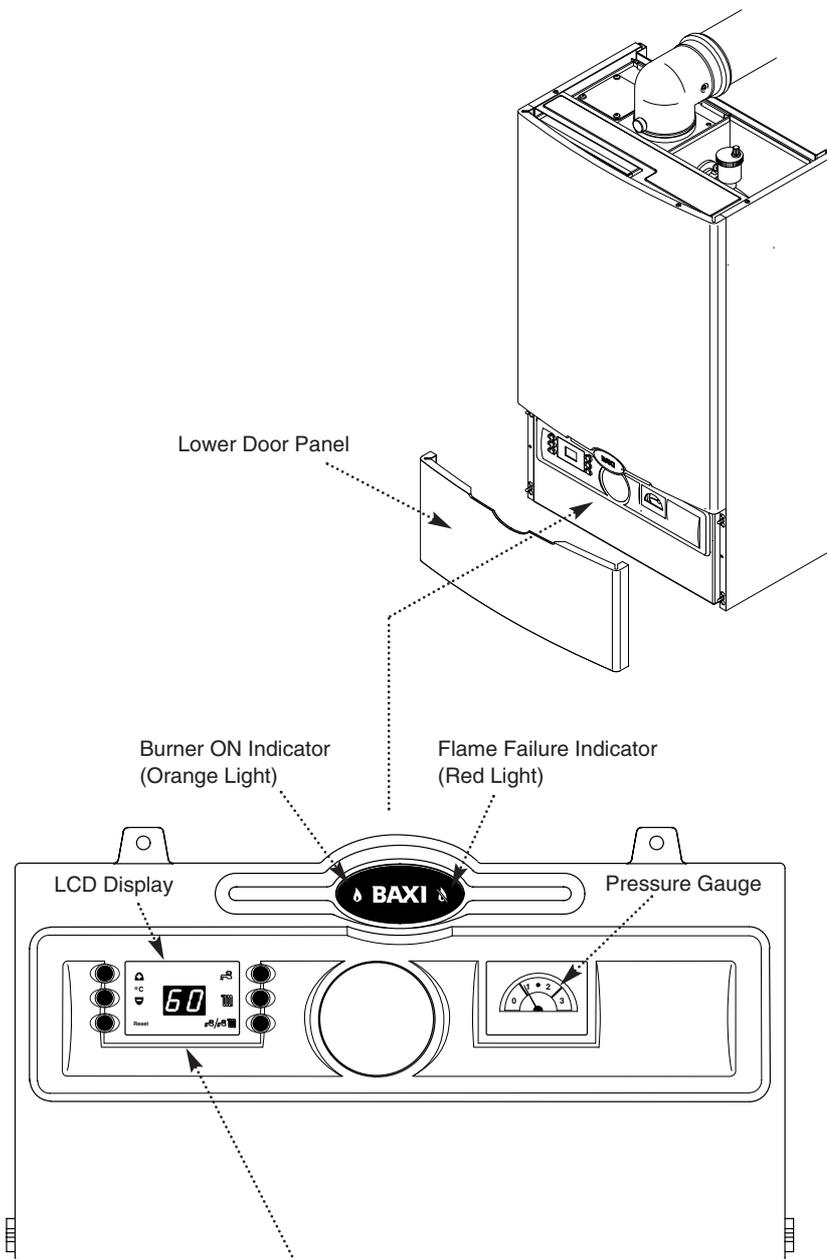

Fig. 3
NOTE: Two status indicators can be seen through the badge (Fig. 3).
1. The appliance only needs resetting if the red flame failure light is on (Fig. 3).